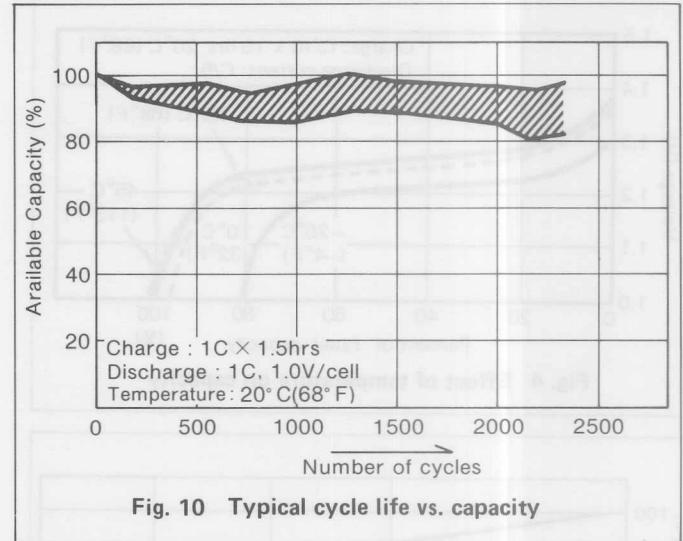

Fig. 10 Typical cycle life vs. capacity
(A) The National Ni-Cd cell can be charged and discharged hundreds of times. An example of this is shown in Fig. 10.